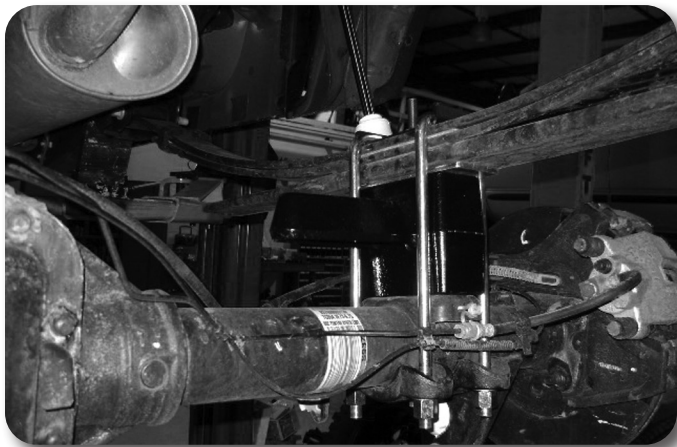

Figure 10
16. Raise the axle/block to the spring while aligning the center pin. Fasten the spring/block assembly with the provided u-bolts, high nuts and washers. Snug u-bolts, they will be torque with the weight of the vehicle on the springs. (Fig 10)